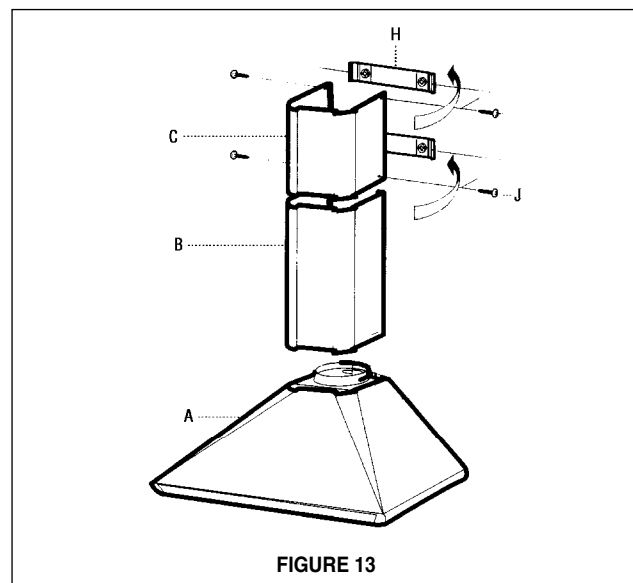

FIGURE 13
9. The chimney must be attached to the body of the rangehood, as indicated in FIGURE 13. The UPPER CHIMNEY COVER (C) must be installed first, then the LOWER CHIMNEY COVER (B) wraps around it. Both sections are secured to the wall under the CHIMNEY MOUNTING BRACKETS (H). Secure the UPPER CHIMNEY COVER to the MOUNTING BRACKETS with the CHIMNEY SCREWS (J). Secure the LOWER CHIMNEY COVER to the CANOPY (A) by inserting the flanges at the bottom of the LOWER CHIMNEY COVER into the holes on the CANOPY.